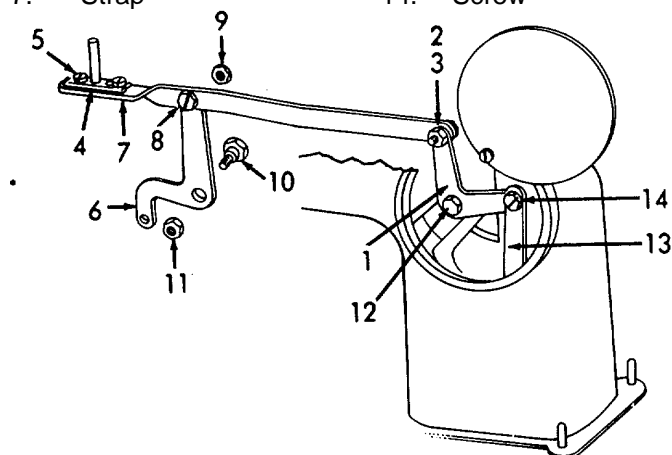
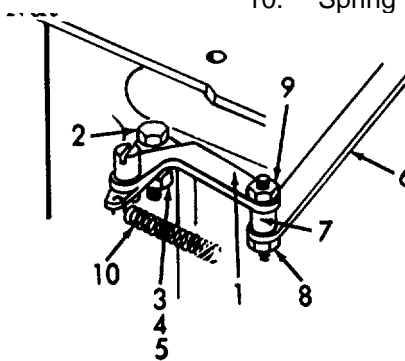

Figure 6-141. Upper Connecting Strap, Installation .
Figure 6-142.
e. *Installation (Refer to Figures 6-141 and 6-142).*
(1) Refer to Figure 6-141. Install pivot lever (1), pivot screw (2), and nut (3).
(2) Install kick pin support (4) and two screws (5).
(3) Connect front segment (6) to connecting strap (7).
(4) Install connecting stud (8) and nut (9).
(5) Install connecting strap (7) through front of arm.
(6) Install pivot screw (10) and nut (11).
(7) Install screw (12).
(8) Install connecting strap (13) and screw (14).
(9) Refer to Figure 6-142. Install pivot lever (1), screw (2), flat washer (3), lockwasher (4), and nut (5).
(10) Connect pivot lever (1) and connecting strap (6).
(11) Install stud (7), nut (8), and nut (9).
(12) Install spring (10).